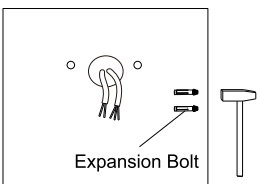

Figure 7
Step 2: Knock the expansion bolts into the wall.(Figure 7)